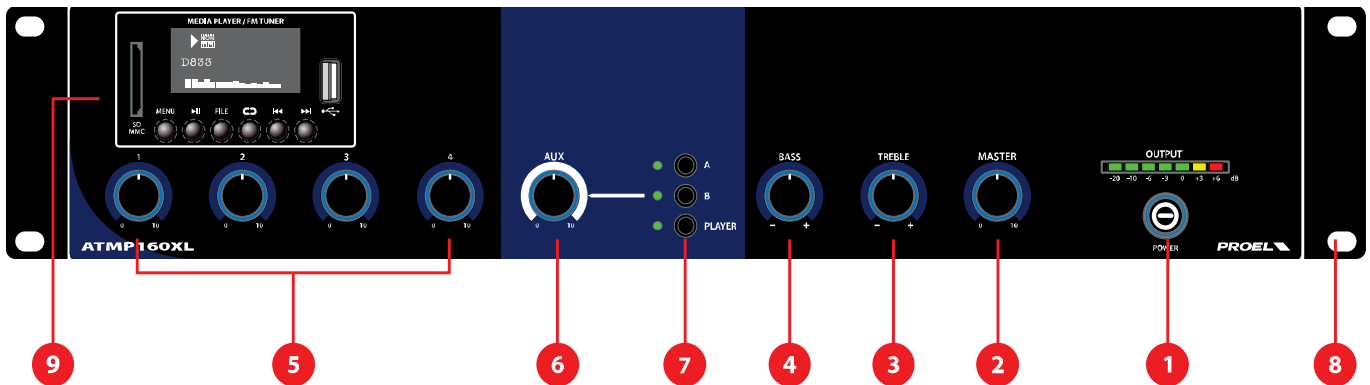
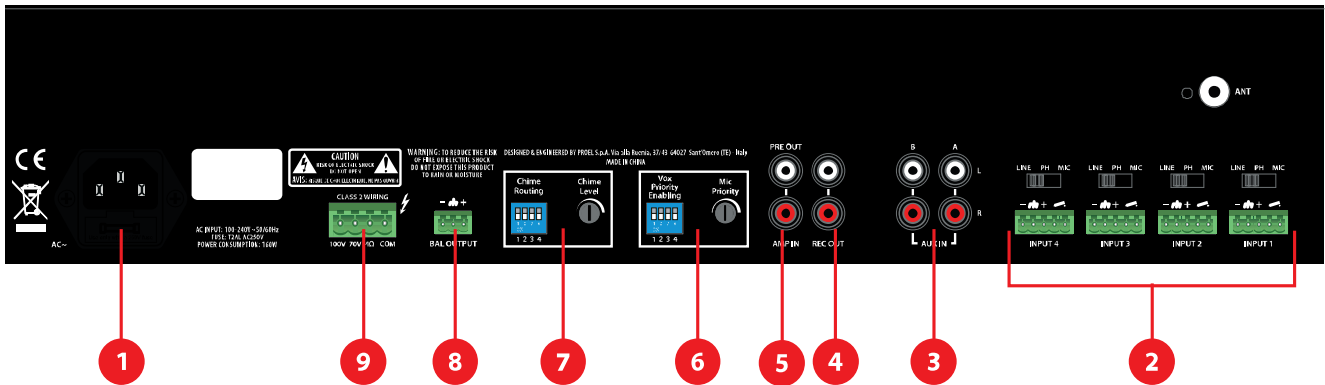

Fig. 1
Fig. 2
Pressing the A, B and PLAYER buttons respectively enables the AUX A, B input (**fig.2, ref.4**) and the Multimedia Module (**fig.1, ref.9**). The enabled input is shown by the lit led.
With a long press of the “I<<”, “>>I” keys it is possible to set the digital volume of the internal media player. We suggest to leave this volume always at maximum and to adjust the level of the media player using the AUX level potentiometer (**fig.1, ref.6**).
Each input has a “Dry Contact” that has the functions “Chime Activation” and “Force Input Muting”. These functions can also be activated simultaneously and are subjected to the (ON – OFF) position of the dip switch (**fig.2, ref.6 e 7**):
The amplifier will play an alert sound from the loudspeakers line when the contact is closed (**fig.3 ref.C**) with the relative dip-switch PIN ON (**fig.2 rif.7**).
The control forces the muting of AUX inputs and other inputs (**fig.2, ref.2**) with the relative VOX PIN (**fig.2, ref.6**) OFF when the contact is closed (**fig.3 ref.C**). Inputs will remain mute while the dry contact remains closed. This function is particularly useful with very weak audio signals, which may cause constant connections/disconnections of the VOX function, resulting in alternating the signal output.
*Each INPUT 1 ÷ INPUT 4 has a VOX function that can be switched on and off using the PIN (**fig.2, ref.6**): while the VOX circuit of one of the channels with VOX ON (enabled) detects the presence of an audio signal on the relative input (**fig.2, ref.2**), the AUX channels (**fig.2, ref.3**) and the channels with VOX OFF (disabled) will be muted, while all the channels with VOX ON will be mixed in the output.*
The device has 3 AUX inputs that can be selected from the front panel (**fig.1 ref.7**):
Each INPUT 1 ÷ INPUT 4 has a VOX function that can be switched on and off using the relative PIN (**Vox Priority Enabling**): when the VOX circuit of one of the channels with VOX ON (enabled) detects the presence of an audio signal on the relative input (**fig.2, ref.2**), the AUX channels (**fig.2, ref.3**) and the channels with VOX OFF (disabled) will be muted, while all the channels with VOX ON will be mixed in the output.
Connect the constant impedance line (4Ω) between the “COM” and “ 4Ω ” terminals (**Fig. 2, Ref. 4**).
Connect the constant voltage line (100V or 70V) between the “COM” and “100V” (or “70V”) terminals (**Fig. 2, Ref. 4**).
Connect the constant voltage line (100V or 70V) between the two “COM” and “100V” (or “70V”) terminals (**Fig. 2, Ref. 4**).